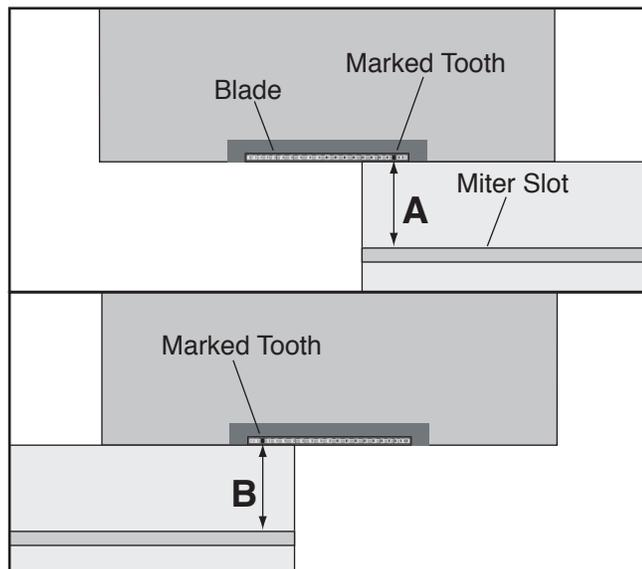

Figure 111. Measuring distance between table and blade.
4. Move the sliding table all the way back, and measure the distance "A" in **Figure 111**, between the marked tooth and the edge of the miter slot.
5. Rotate the blade 180°, move the sliding table all the way forward, and measure the distance between "B" in **Figure 111**.